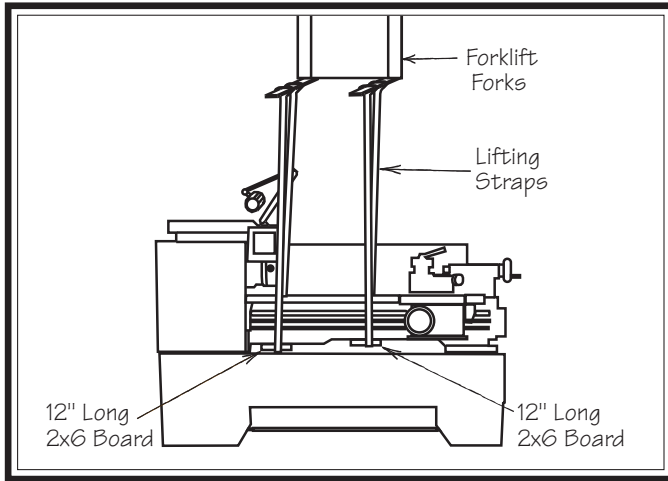

Figure 19. Lathe set up for lifting with forklift.
6. Attach the lifting straps to the forklift forks or a hook and chain, as shown in **Figures 19–20**.